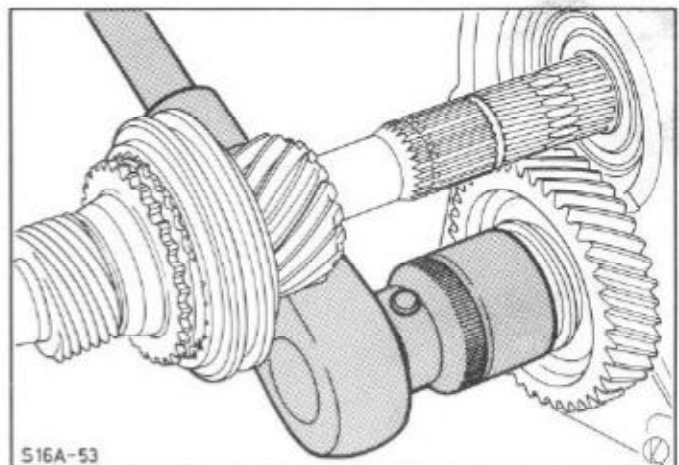

Fig.121. Unscrew 5th gear nut.
14. Detach nut (5th gear cog) from the countershaft gear cluster. Immobilise the mainshaft and countershaft gear train by engaging two gears (other than 4th gear), unlock the nut and unscrew it, Fig.121. Remove washer.